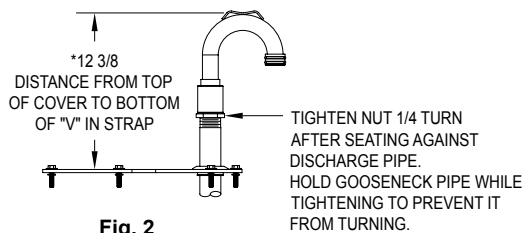

Fig. 2
2. Adjust gooseneck outlet pipe (see Fig. 2) and tighten compression nut (Distance to be verified by lowering pump assembly into tank and ensuring that the cover of the pump assembly seats against tank opening and the quarter turn ball valve handle remains operable. Height is easily adjusted up or down to accommodate any field variances).